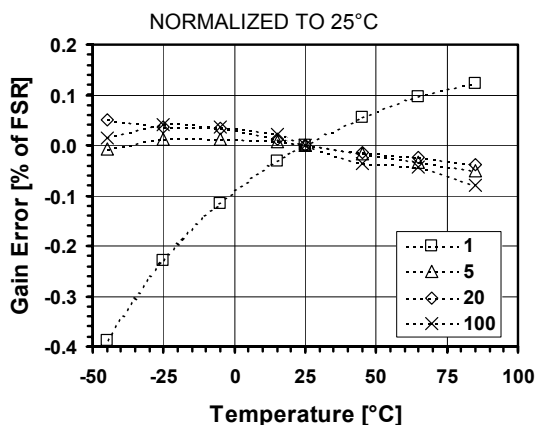

Figure 17-19. Gain error vs. temperature for different PGA gains
- (7) Resolution is given by $n = 2 \cdot \log_2(OSR) + \log_2(N_{ELCONV})$. OSR can be set between 8 and 1024, in powers of 2. N_{ELCONV} can be set to 1, 2, 4 or 8.
- (8) If a ramp signal is applied to the input, all digital codes appear in the resulting ADC output data.
- (9) Gain error is defined as the amount of deviation between the ideal (theoretical) transfer function and the measured transfer function (with the offset error removed). (See Figure 17-19)
- (10) Offset error is defined as the output code error for a zero volt input (ideally, output code = 0). For ± 1 LSB offset, N_{ELCONV} must be ≥ 2 .
- (11) INL defined as the deviation of the DC transfer curve of each individual code from the best-fit straight line. This specification holds over the full scale.
- (12) DNL is defined as the difference (in LSB) between the ideal (1 LSB) and measured code transitions for successive codes.
- (13) Figures for Gains = 1 to 100. PSRR is defined as the amount of change in the ADC output value as the power supply voltage changes.
- (14) Conversion time is given by: $T_{CONV} = (N_{ELCONV} \cdot (OSR + 1) + 1) / f_s$. OSR can be set between 8 and 1024, in powers of 2. N_{ELCONV} can be set to 1, 2, 4 or 8.
- (15) PGAs are reset after each writing operation to registers RegAccfg1-5. The ADC must be started after a PGA or inputs common-mode stabilisation delay. This is done by writing bit *Start* several cycles after PGA settings modification or channel switching. Delay between PGA start or input channel switching and ADC start should be equivalent to OSR (between 8 and 1024) number of cycles. This delay does not apply to conversions made without the PGAs.
- (16) Nominal (maximum) bias currents in PGAs and ADC, i.e. $IB_AMP_PGA[1:0] = '11'$ and $IB_AMP_ADC[1:0] = '11'$.
- (17) Bias currents in PGAs and ADC set to 3/4 of nominal values, i.e. $IB_AMP_PGA[1:0] = '10'$, $IB_AMP_ADC[1:0] = '10'$.
- (18) Bias currents in PGAs and ADC set to 1/2 of nominal values, i.e. $IB_AMP_PGA[1:0] = '01'$, $IB_AMP_ADC[1:0] = '01'$.
- (19) Bias currents in PGAs and ADC set to 1/4 of nominal values, i.e. $IB_AMP_PGA[1:0] = '00'$, $IB_AMP_ADC[1:0] = '00'$.
Figure 17-19 shows gain error drift vs. temperature for different PGA gains. The curves are expressed in % of Full-Scale Range (FSR) normalized to 25°C.